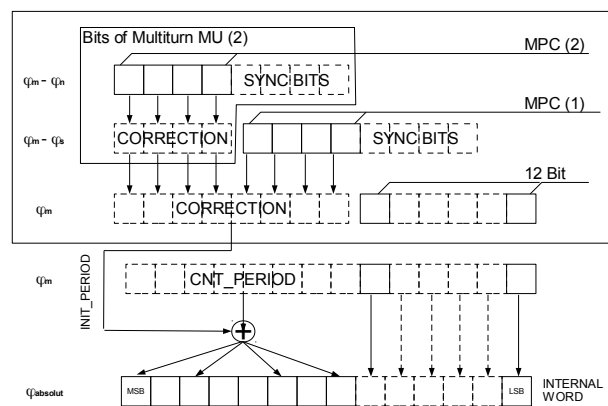

Figure 43: Principle of the synchronisation of a 3-track nonius system using 2 iC-MU without further multiturn data
Figure 43 shows the principle of the synchronisation of the data from iC-MU (2) to iC-MU (1).